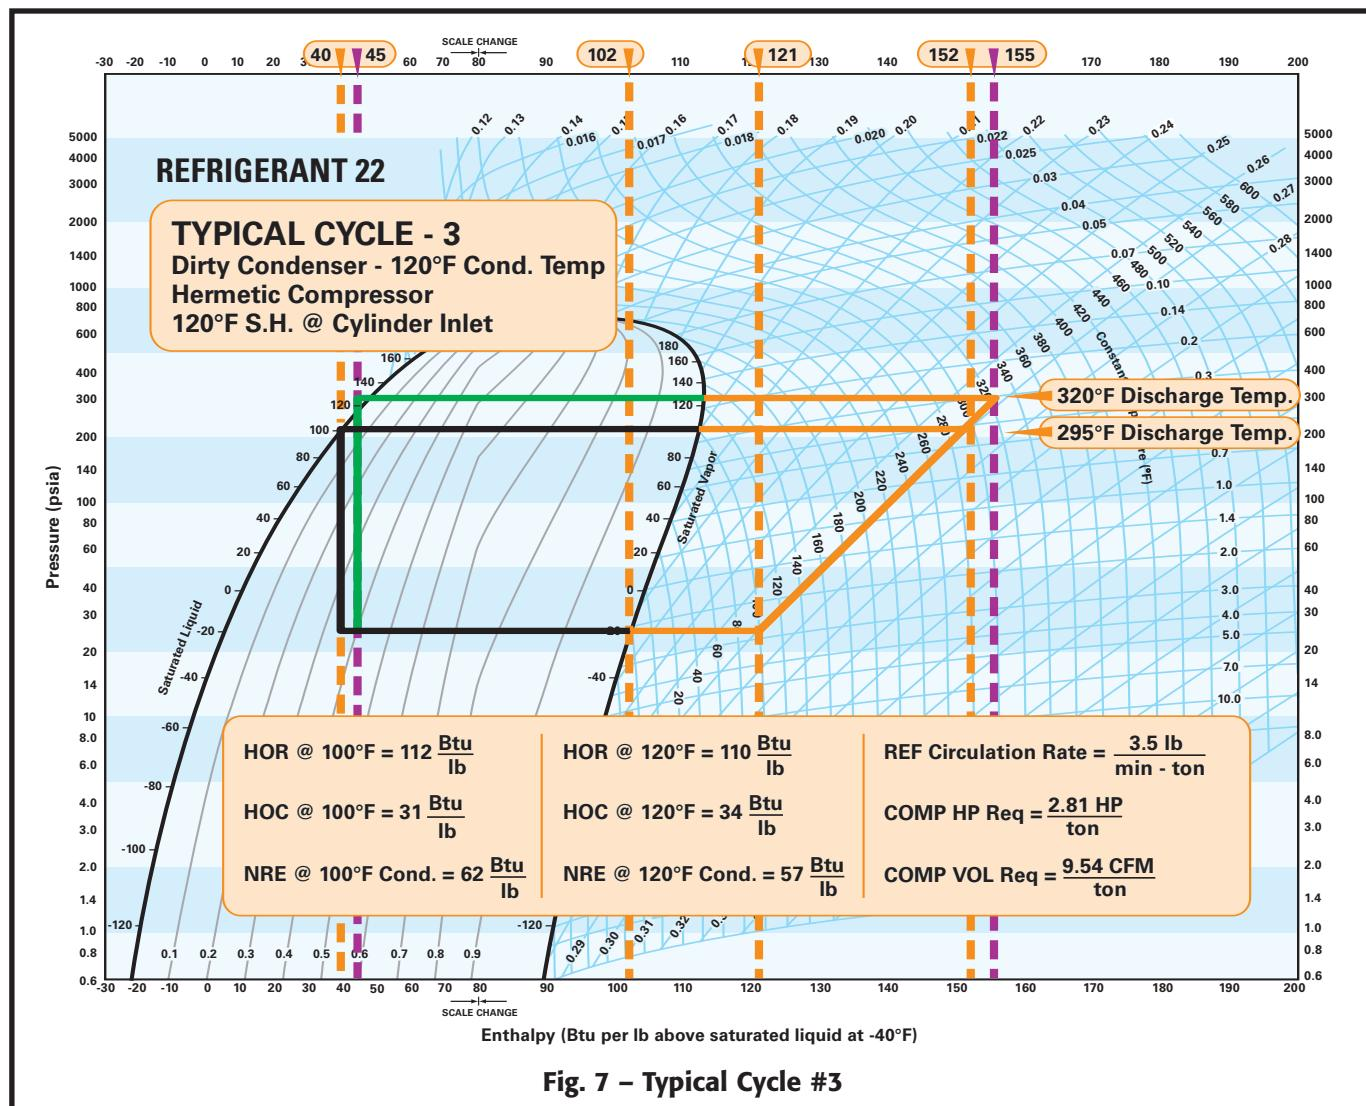

Fig. 7 – Typical Cycle #3
**Typical Cycle #3 (Fig. 7):** Now, let's take a look at the real world. It is now the dead of summer – the most extreme condition for the equipment. When the system design and equipment selection was made, it was this summer weather that was used as the worst case condition of operation. Now, your company was so busy in the winter that the yearly preventative maintenance was not done. Or perhaps it's one of those customers